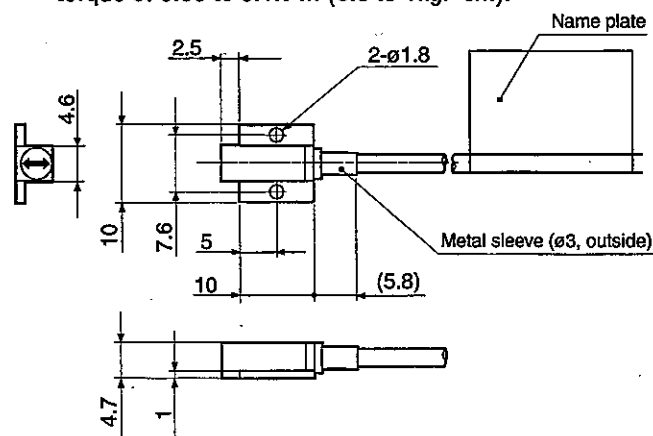

Fig.2-2
- (1) To install, use M1.6 or No.0-80UNF screws (longer than 5mm). Referring to Fig. 2-2 and 2-3, drill holes in the measuring object. The holes' effective screw depth should be longer than the mount screws, i.e. $l_1 \leq l_2$. The distance between the holes should be 7.6 ± 0.1 .
- (2) Clean the mounting area thoroughly.
- (3) Also clean the mounting surface of the transducer.
- (4) Apply a thin coating of silicon grease between the transducer and measuring object. Then tighten the screws, using torque of 0.08 to 0.1 N·m (0.8 to 1 kgf·cm).